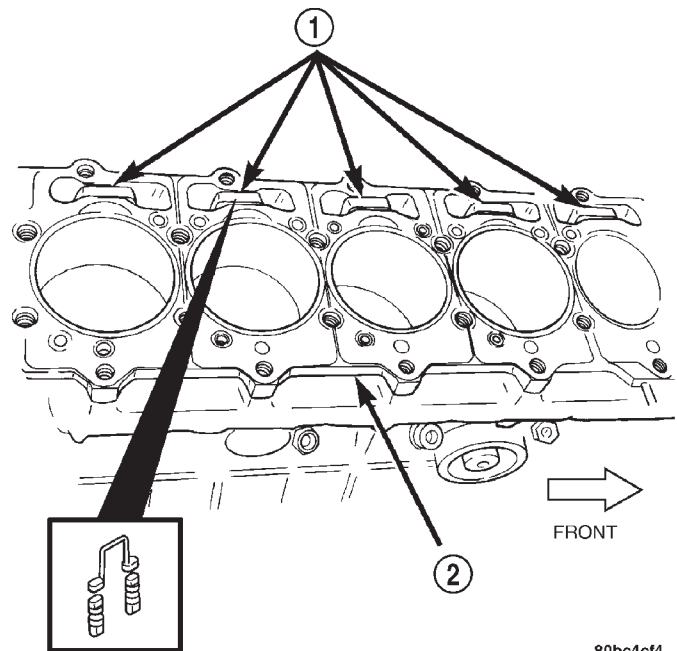

Fig. 50 Tappet And Retainer
(5) Remove cylinder head cover. Refer to cylinder head cover removal and installation procedure in this section.
(6) Remove the rocker assemblies and push rods. Refer to rocker arms and push rod removal and installation procedure in this section. Identify push rods to ensure installation in original location.
(7) Remove cylinder head, intake manifold, and exhaust manifold. Refer to cylinder head removal and installation in this section.
(8) Remove the tappet retainers (Fig. 50).
(9) Slide Hydraulic Tappet Remover/Installer Tool through opening in block and seat tool firmly in the head of tappet.
(10) Pull the tappet out of the bore with a twisting motion. If all tappets are to be removed, identify tappets to ensure installation in original location.